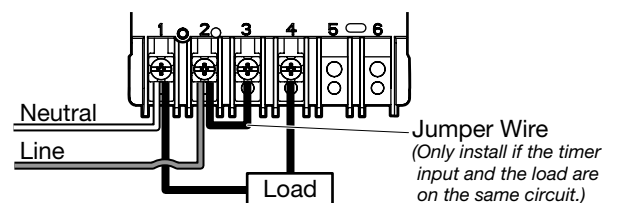

FIG. 5 Plastic Insulator and Wire Terminals
3. Insert the wire ends under the proper terminal plates and tighten the screws firmly. See FIG. 5.